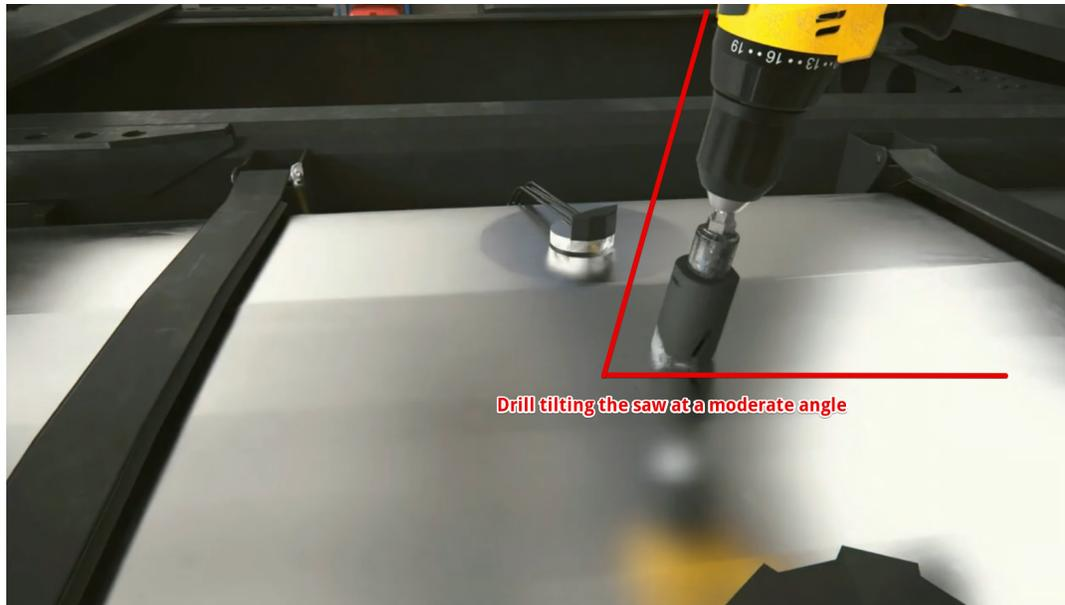

Fig. 30 Drilling a hole at an angle
- If the space around the selected spot is clear, **drill a bigger hole with a \varnothing 30-35 mm bimetallic hole saw**; be sure to tilt the saw a little bit to prevent the cut piece from falling into the tank (**Fig. 30 and 31**). Use a magnet to collect metal shavings and keep them from falling into the tank.